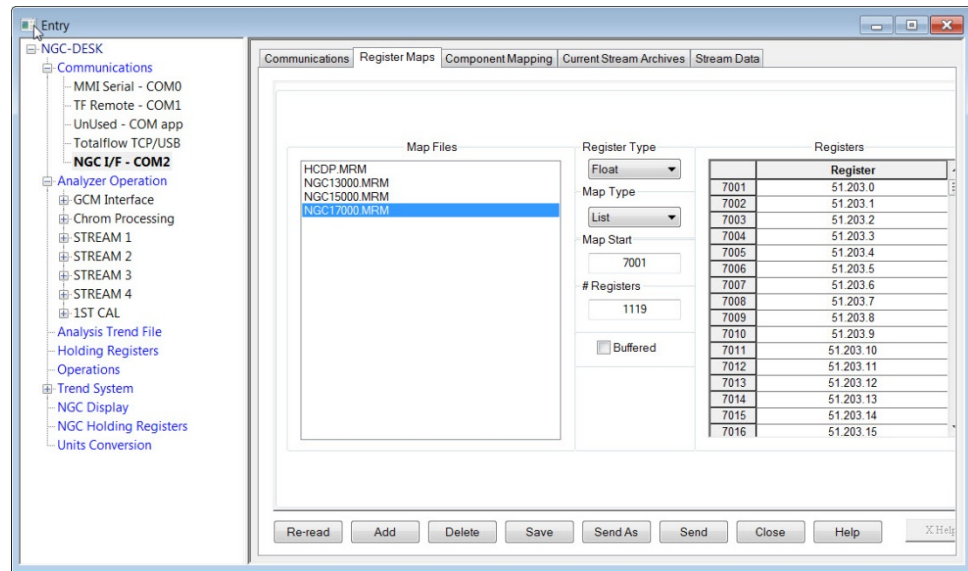

Figure 19. Verify Register Map Files
- 2) Verify the 3 files for the register maps are listed (file extension of *.MRM). The required files are NGC13000, NGC15000 and NGC17000 (see Figure 19).